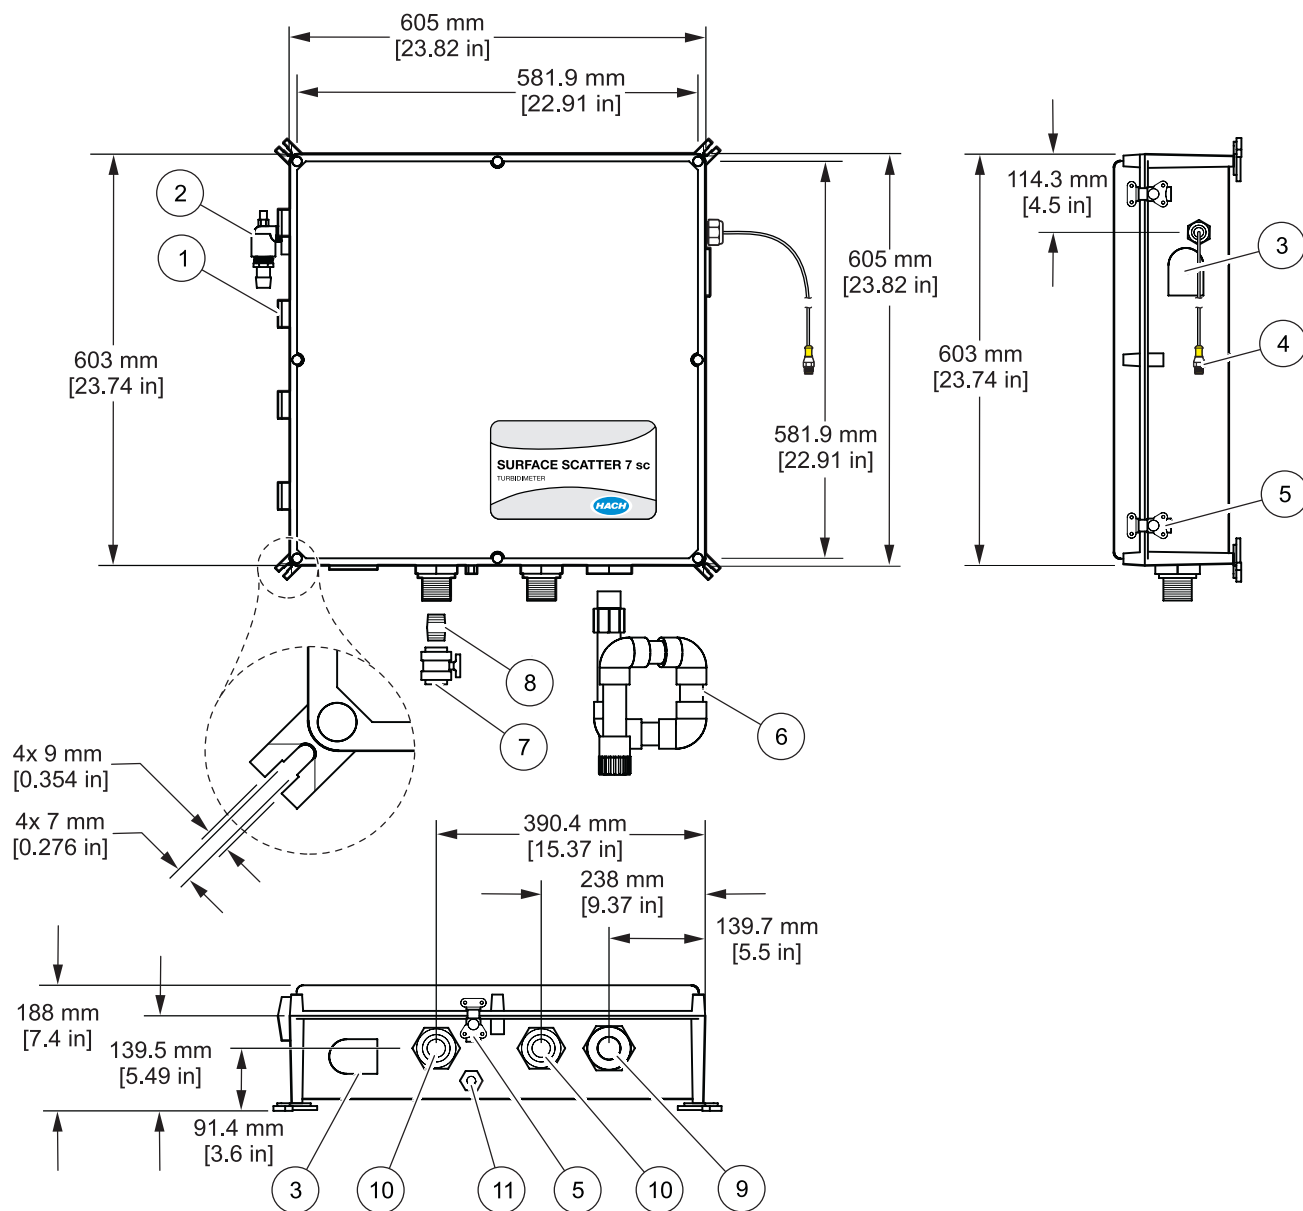
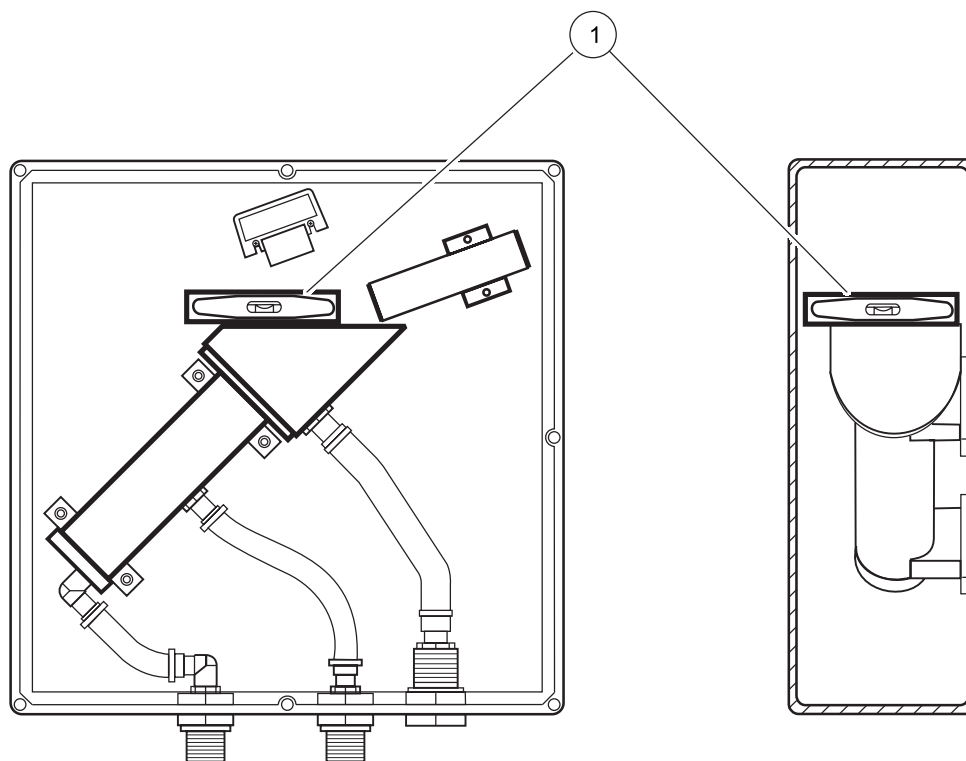
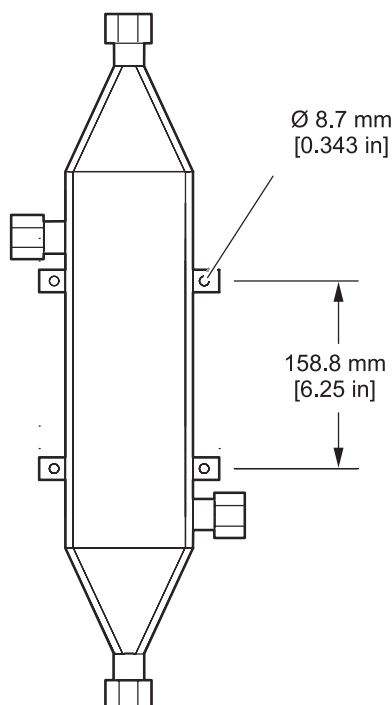

Figure 7 SS7 sc and SS7 sc-HST installation drawing
Figure 8 Instrument leveling
Figure 9 Heat exchanger dimensions
Dimensions and other installation information are shown in Figure 7 on page 16, Figure 8 on page 17 and Figure 9 on page 18. The control and sample unit are designed for wall mounting. The turbidimeter sensor must be mounted within six feet of the controller unless an extension cable is used. Maximum cable length is 9.6 m (31.5 ft).
1. To ensure proper performance, the sample unit must be level (Figure 8 on page 17). Use a small level across the top opening of the turbidimeter body to verify that the instrument does not slope left-to-right or front-to-back.
An optional heat exchanger (Cat. No. 48551-00) is available for the SS7 sc-HST (Figure 9 on page 18). The heat exchanger reduces sample temperatures that exceed the temperature requirements of the instrument. It can reduce sample temperatures of up to 100 °C but is not suitable for steam or super-heated water. A source of cooling water is required. The heat exchanger is made of 316 stainless steel and has 3/4" MNPT pipe connections. The large plumbing connections help eliminate clogging.
- See Figure 9 on page 18 for installation dimensions.